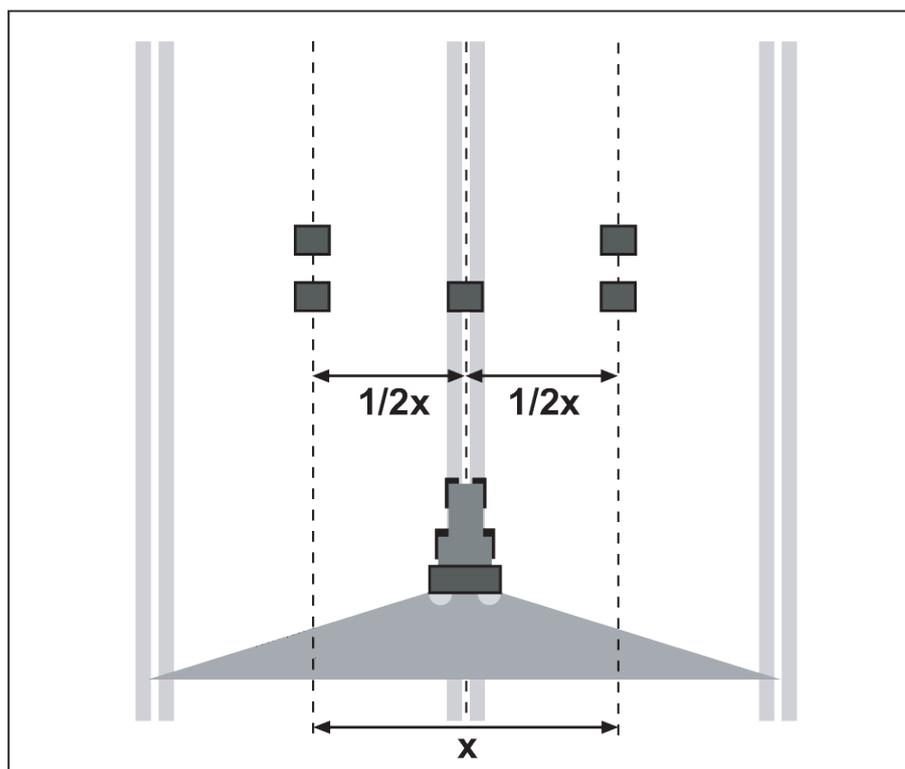

Fig. 32: Layout for one passage
- ▶ Place two collecting vessels one in front of another at a distance of **1 m** in the overlap zones (between the tracks) and one collecting vessel in the track (according to Fig. 32)